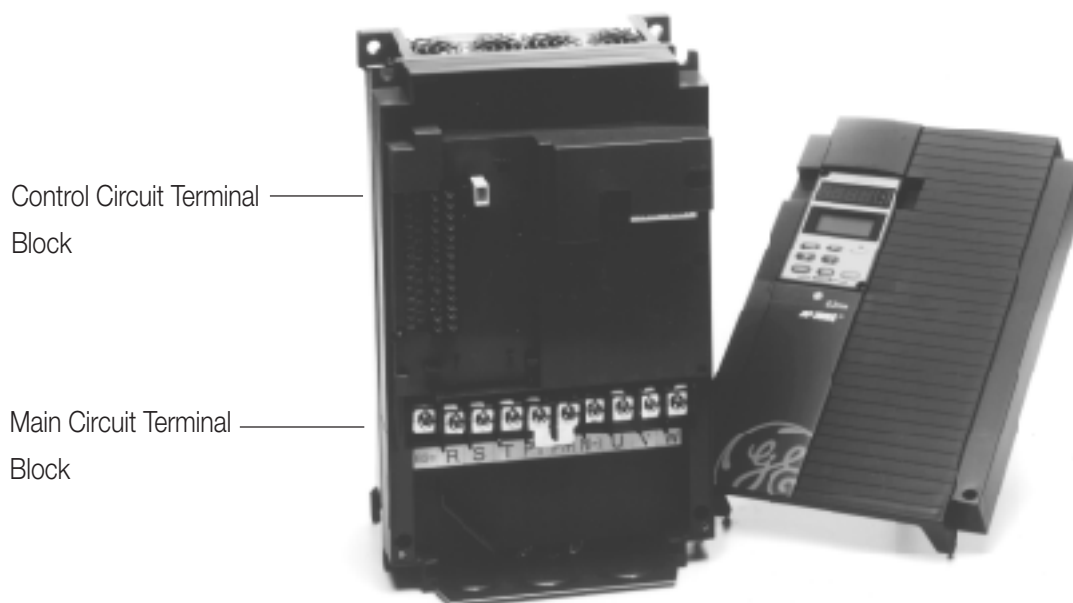

Figure 4-3. TERMINAL BLOCKS
- See Figure 4-3 & 4-4 for wiring connections.
1. Connect the ground terminal as shown in the appropriate view of Figure 4-3 or 4-4. (Do not operate without the unit being grounded.)
2. Connect the power supply wires to the L1, L2, and L3 terminals of the Main Circuit Terminal Block as shown in the appropriate view of Figure 4-3 or 4-4. (See TABLE 5 for description of all terminals and TABLE 4 for recommended wire sizes.)
3. Connect the 3-phase motor wires to the U, V, and W terminals of the Main Circuit Terminal Block as shown in the appropriate view of Figure 4-3 or 4-4. (See TABLE 5 for description of all terminals and TABLE 4 for recommended wire sizes.)